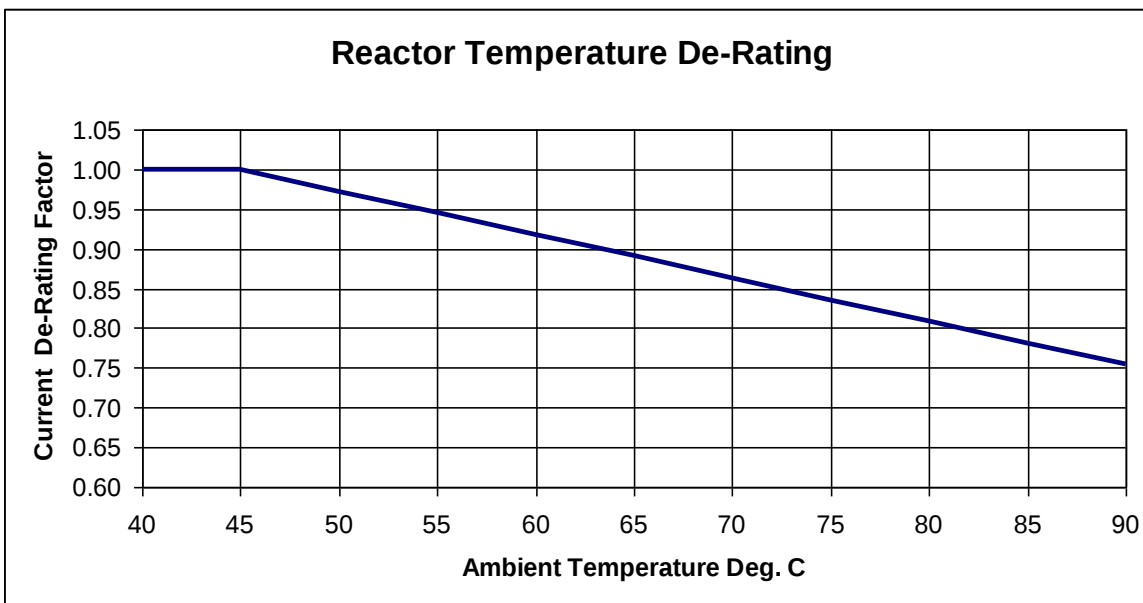

Figure 3-2: Temperature Derating
- ☐ **Temperature:** See Table 3-1: Performance Specifications (p5) for operating temperature information and Figure 3-2: Temperature Derating (p7) for derating information.